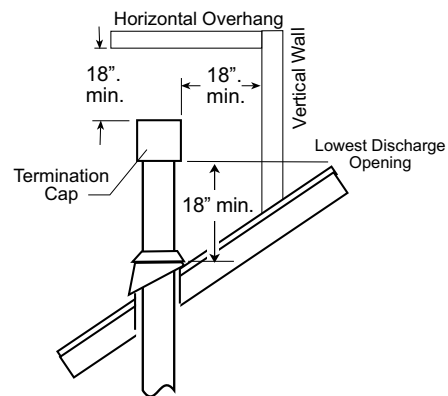

Figure 6.6.
- **Vent Terminus Clearance:** In no case shall any discharge opening on the cap be less than 18 in. (457 mm) horizontally from the roof surface. See fig. 6.6.